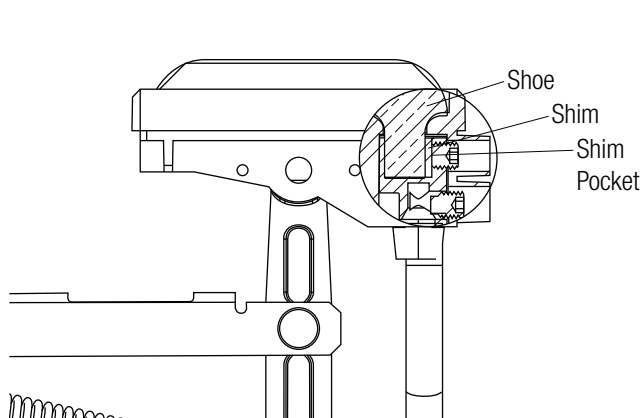

Figure: 23-1
- Remove shoe by pulling upward, take care not to lose the shim located between the shoe and the setscrew. See **Figure: 23-1**.